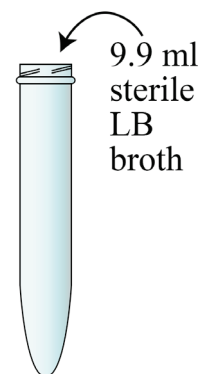

Fig. 7
2. Collect the complete set of 5 microbial broth culture tubes “A”, “P”, “H”, “Amp” and “W” prepared in Part (2).
5. To each of the above centrifuge tubes, aseptically* use a P5000 micropipette and sterile tips to add 9.9 ml sterile LB broth (Fig. 7).